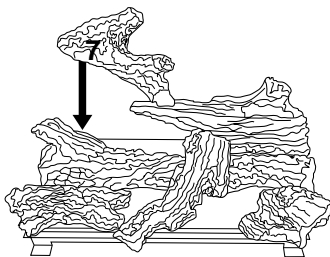

Figure 42 - Installing Log No. 7
5. Place back end of log #7 (left rear log) onto pin on left rear burner and rest front onto log #1 as shown in Figure 42.
6. Rest log #8 (left crossover log) onto log #3 and rest log #9 (right crossover log) onto logs #4 and #5 as shown in Figure 42.